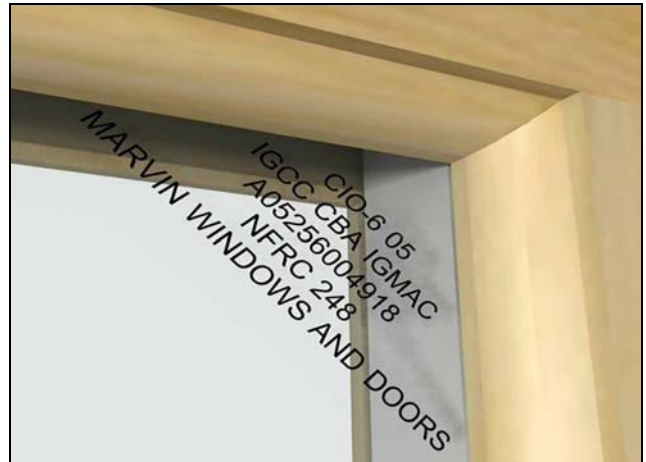

Figure 10
6. Inspect unit for any hidden damage and report immediately to your Marvin representative. Provide the customer service number etched on one of the top corners of the glass. See Figure 10.